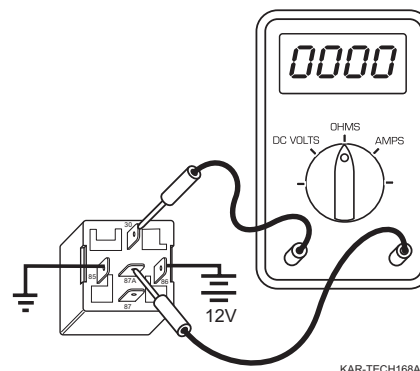

Figure 55
- Continuity test. Leave the 12-volt power and ground sources connected to terminals 85 and 86 (Figure 55). Connect ohmmeter to terminals 87A and 30. Ohmmeter must indicate no continuity.